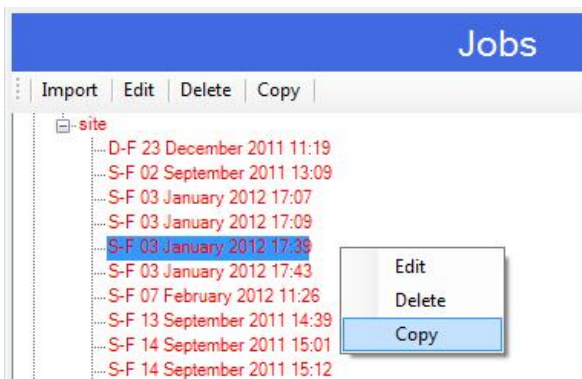

Figure 3.8 Selecting an individual survey
1. Select the survey you wish to move (see Figure 3.8).